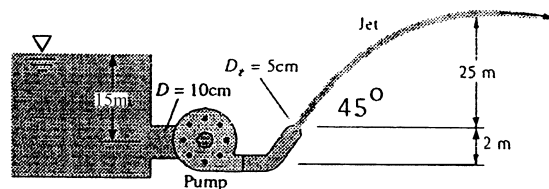

Fig. P3.144
3.144 The pump in Fig. P3.144 creates a 20°C water jet oriented to travel a maximum horizontal distance. System friction head losses are 6.5 m . The jet may be approximated by the trajectory of frictionless particles. What power must be delivered by the pump?